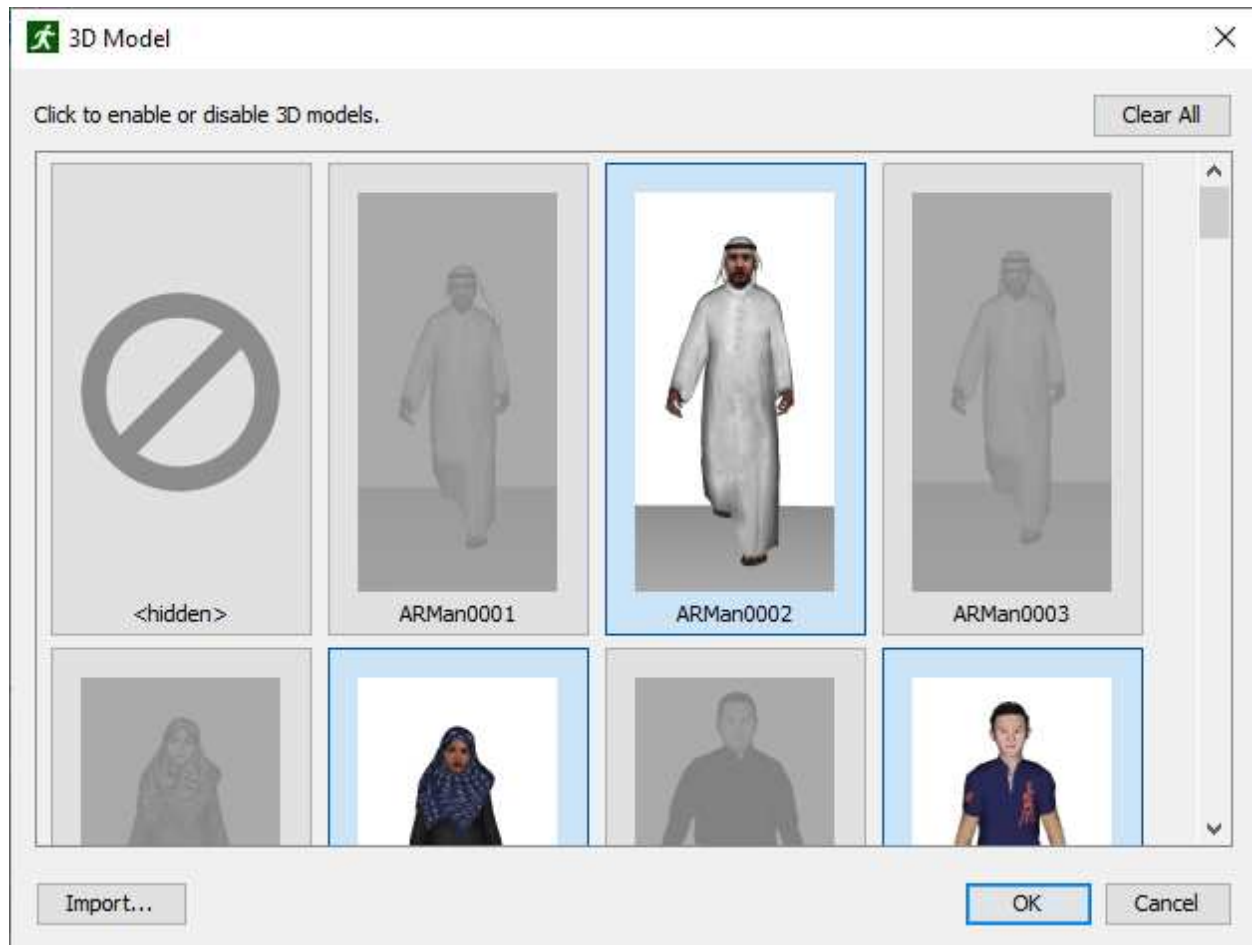

Figure 107. An example of the 3D model dialog.
1. Click **Edit** on the **3D Model** row. This will open the **3D Models** dialog (see Figure 107).